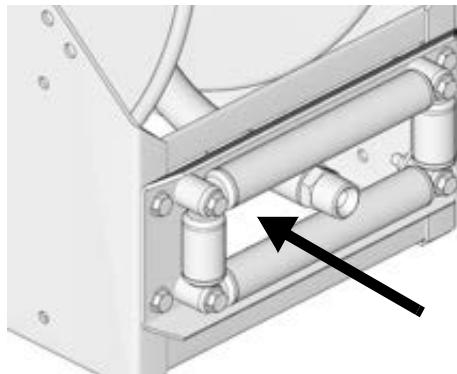

FIG. 15
5. Feed the loose end of the hose through the hose rollers and manually wrap and secure the hose onto the reel (FIG. 15).